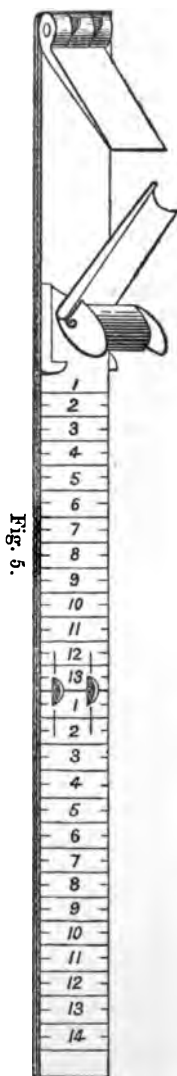

Fig. 5.
**Description of Size Stick.**—The following explanation of the size-stick (Fig. 5) will be found useful to those who have not perfectly mastered it. The first part of the size-stick is quite plain, because the smallest size of boots or shoes made is five inches long, and to get this length, the sliding upright has to be pushed forward to the first line of the size-stick. This is called the first size; but babies' shoes mostly run from 2 to 5 sizes. It must be understood (see lines) that every third part of an inch is one size, and the sixth part of an inch is half a size;